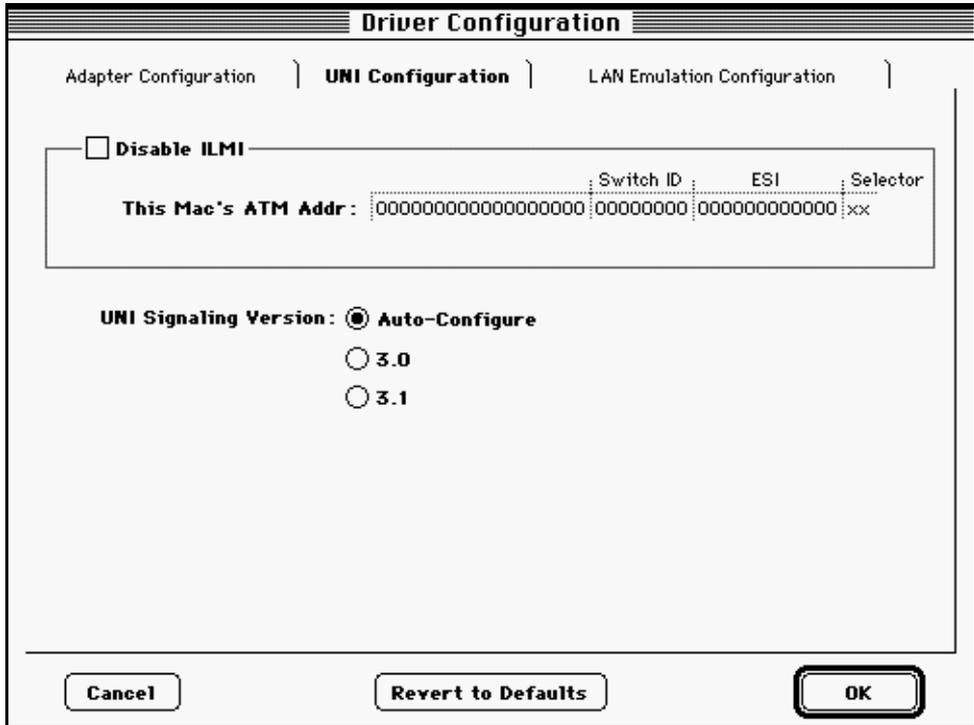

Figure 4.16 - UNI Configuration Tab
The UNI Configuration tab, shown in Figure 4.16, allows you to configure the LEC's ATM address automatically or manually and the UNI signalling version in the same manner. This tab is accessed through the `Edit` menu of the InFOREmation Center under the `Driver Preferences...` menu selection.
2. Click the **UNI Configuration** tab as shown in Figure 4.16. This is shown in default mode, i.e., **ILMI** is enabled.
2. Click the UNI Configuration tab as shown in Figure 4.16.